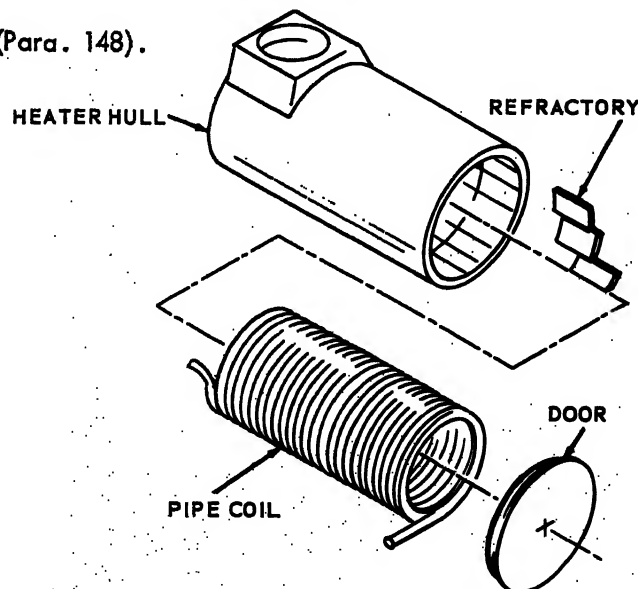

FIGURE 63. REMOVAL AND ASSEMBLY OF PIPING AND REFRACTORY
- b. Refer to Fig. 63 and remove the piping and refractory.
- a. Refer to Fig. 63 and install the refractory and piping.